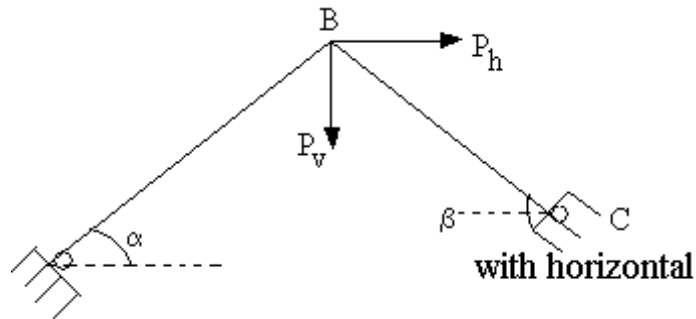

Figure 1:
5. In the pin jointed frame shown in Figure 1, if joint B undergoes horizontal and vertical displacements of magnitude  $\delta_u, \delta_v$  respectively. Find the magnitude of the load that is applied at B. If  $A_1, A_2$  and  $L_1, L_2$  represent the area of c/s and lengths of the members AB and BC respectively, with E as modulus of elasticity then what shall be the force required if the joint B has no horizontal shift. [16]